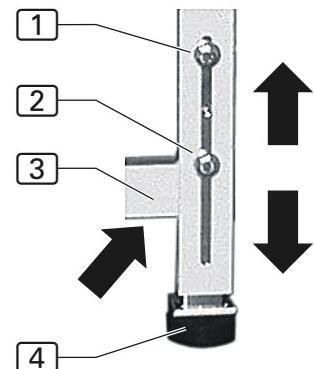

Fig. 1
1. **Fig. 1:** Lift machine: Connect lifting device at lift points (arrows) below the crossmembers. If the machine is equipped with the optional transport rollers, release brakes before lifting